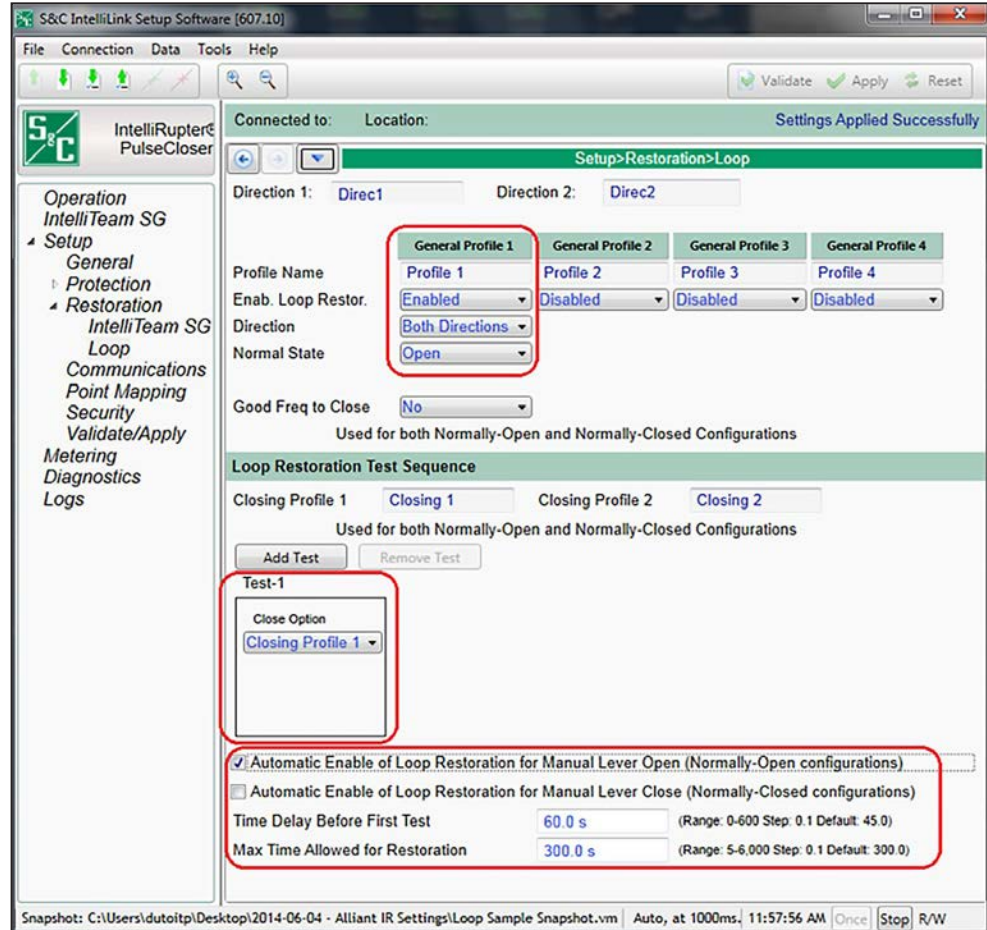

Figure 86. The Setup>Restoration>Loop screen.
- STEP 1.** On the *Setup>Restoration>Loop* screen, enable the **Enable Loop Restoration** setpoint for the desired **General** profile. See Figure 86 on page 172.
When **Loop Restoration** mode is making a decision to close and restore the feeder, it uses the profile and test sequence programmed at the *Setup>Restoration>Loop>Loop Restoration Test Sequence* screen. See Figure 86 on page 172.